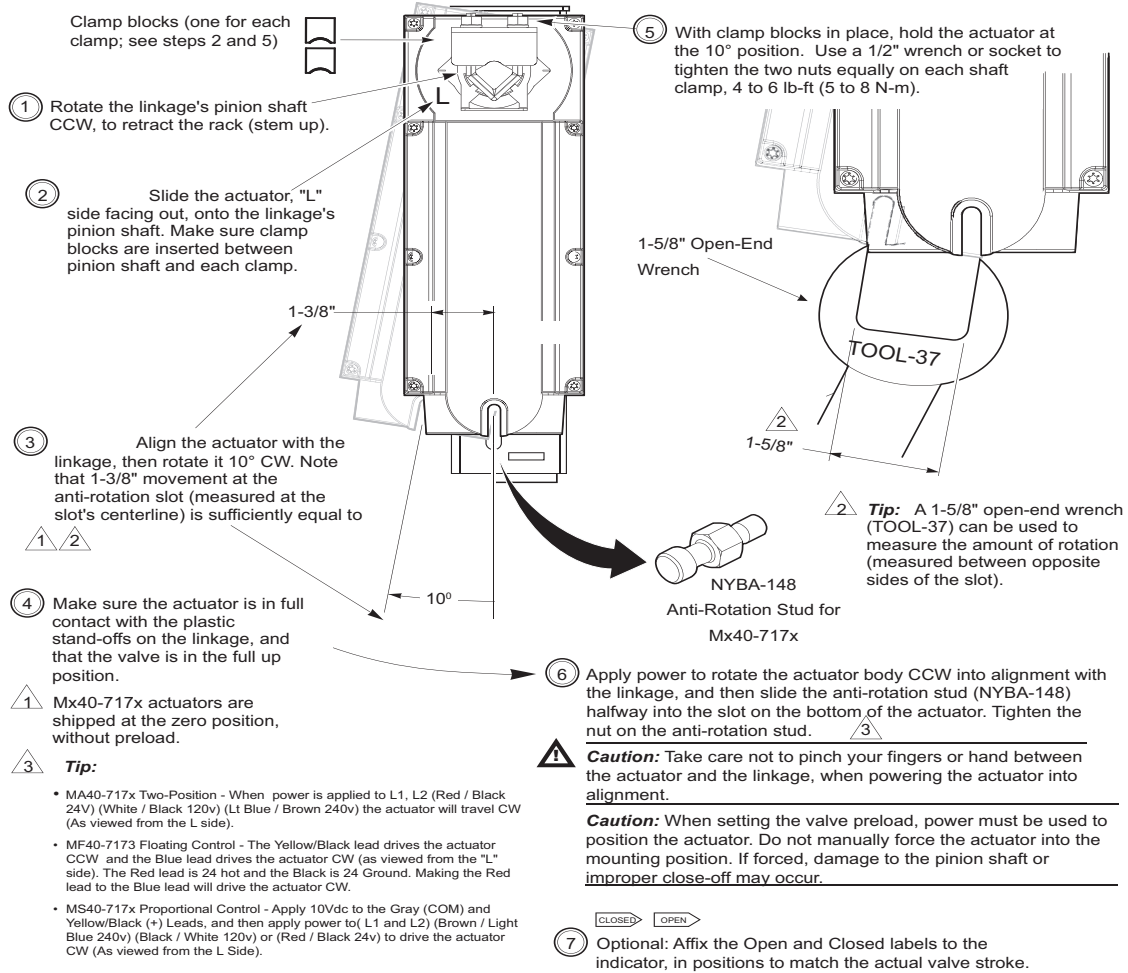

Figure-7 Mounting Mx40-717x and Setting Up Actuator/Linkage/Valve
- a. Install the actuator (or actuators if using dual Mx41-6153 actuators) onto the linkage and valve, and set up the assembly, according to Figure-7 on page 8 and Table-4 on page 11 or Table-5 on page 12.